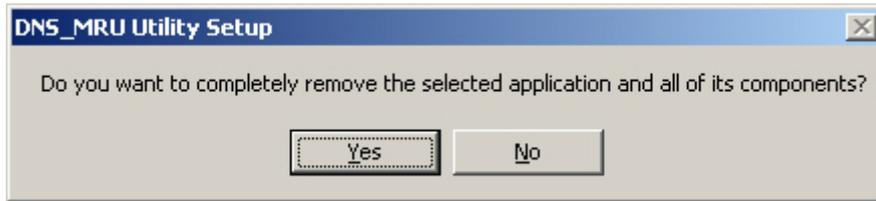

Figure 6-11. Click the button “Yes” to remove the software
Step 5: Click the button “Yes” to remove the software as shown in figure 6-11.